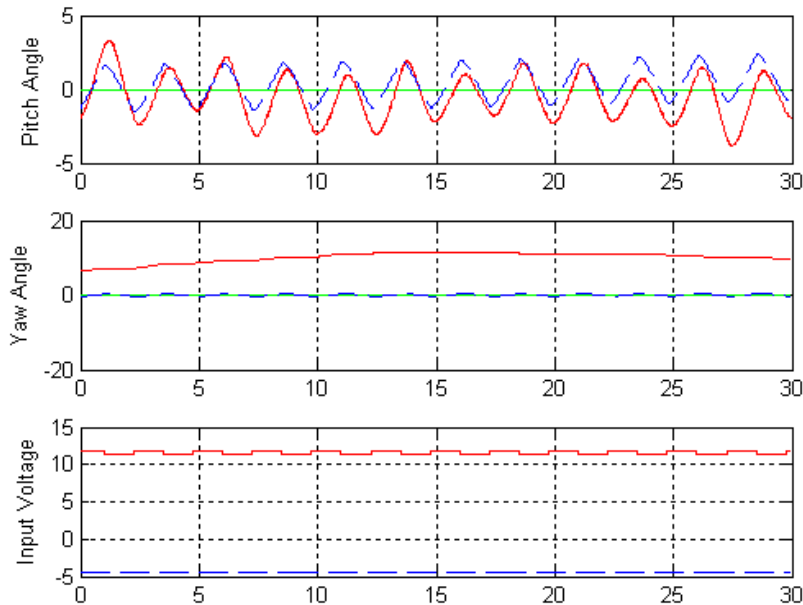

Figure 41: Open-loop pitch step.
10. In the *Desired Voltage* subsystem, set the frequency of the *Signal Generator: Pitch (V)* block to 0.4 Hertz, the *Amplitude: Pitch (V)* gain block to 0.2, and the *Constant Pitch (V)* to 0.
11. As shown in Figure 41, the measured and simulated pitch angles are quite close. The pitch viscous damping term B_p was estimated by tuning its value online as the controller is running. To do this enter a value for B_p in the Matlab command window, for example $B_p = 0.8$. Because the parameter change is made in Matlab (and not directly in the Simulink model), the controller that is running must be updated for the changes of this parameter to take effect. The change can be applied by clicking on the *Edit* menu in the Simulink model and selecting the *Update Diagram* item. Alternatively, controller parameters can be updated by use the keystroke CTRL-D whenever the Simulink model is active.